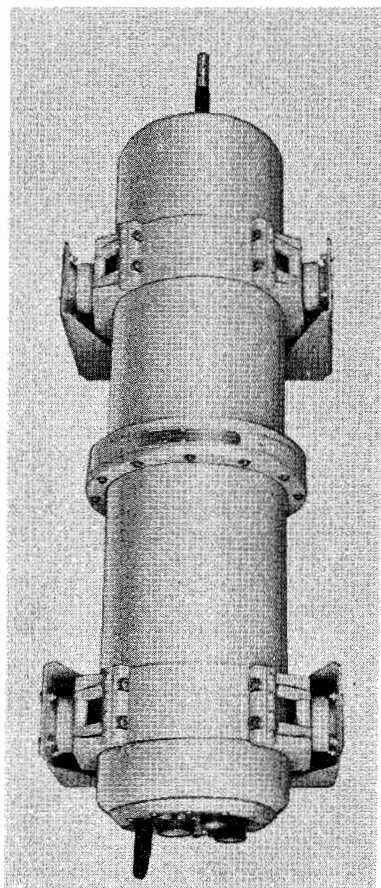

Figure 1-17. Radio Frequency Tuner TN-229/SRT, Side View, Cover On
g. RADIO FREQUENCY TUNER TN-229/SRT (R-F TUNER). (See figures 1-17 and 1-18.)—The function of the antenna tuning equipment is to match the characteristic 50-ohm impedance of the r-f transmission lines to the impedance presented by the antenna over the